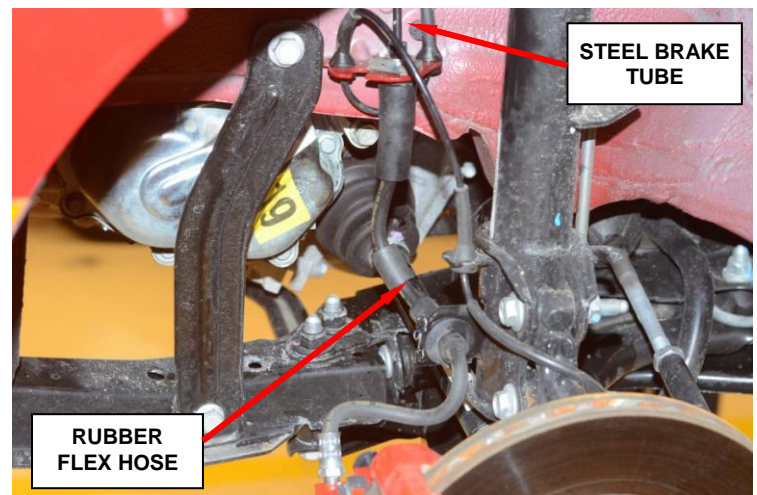

Figure 11 – Front Brake Caliper Rubber Flex Hose
57. Connect the front brake caliper flex hoses to the steel brake tubes (Figure 11).